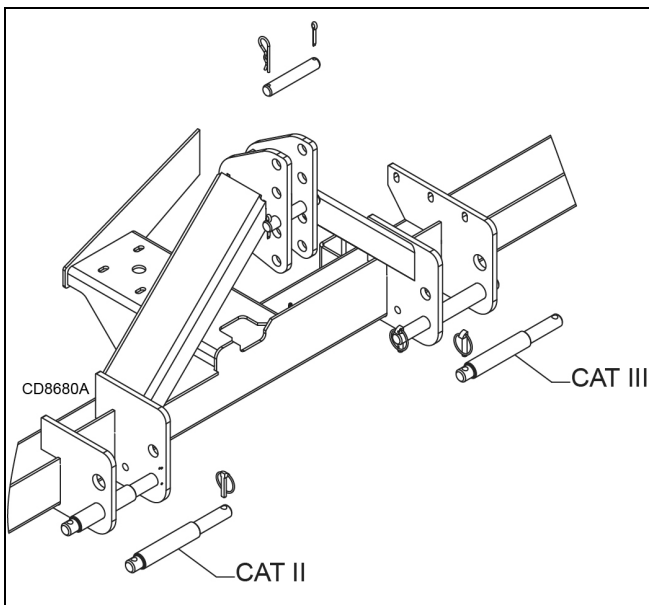

Figure 2. 3-Point Mounting Positions
2. Insert lower hitch pins to Cat 2 position through mast plates and tractor lower lift arms in either upper or lower holes, Figure 2.
2. Insert lower hitch pins to Cat 3 position through mast plates and tractor lower lift arms in either the upper or lower holes, Figure 2.
1. Position lower hitch pins to Category 2 position in either the upper or lower holes Figure 2.